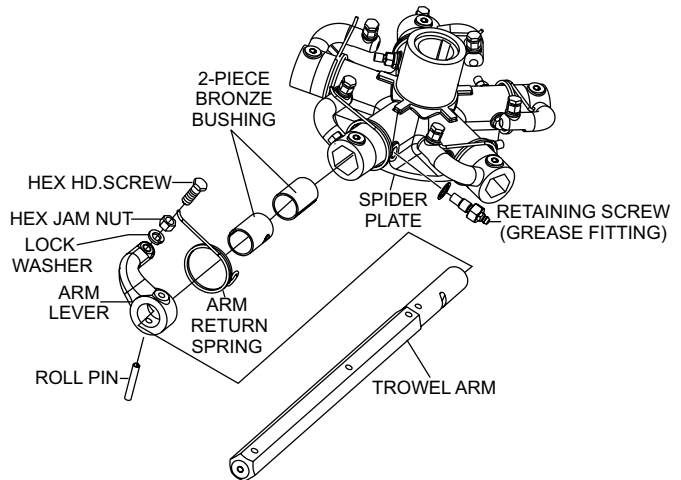

Figure 38. Trowel Arm Removal (Spider Plate)
2. Each trowel arm (Figure 38) is held in place at the spider plate by a hex head bolt (zerk grease fitting) and a roll pin. Remove both the hex head bolt and the roll pin from the spider plate.